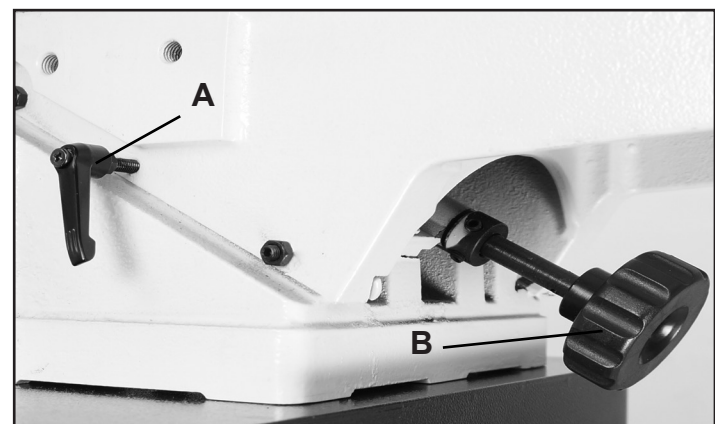

FIG. 32
- A. Release the locking lever (A) at the rear of the outfeed table. FIG. 32.
- B. Turn the handwheel (B) to adjust the outfeed table until it is parallel with the edge of the cutter(s). FIG. 32.
- C. Once the table is set, tighten the locking lever (A) to secure the table in its new setting. FIG. 32.